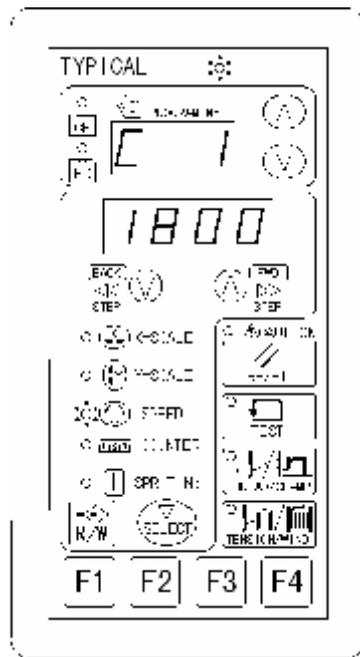

Fig. 5-28
1. Press  or  key, to find out cycle program number (as shown in Fig. 5-28) on PROGRAM No. display area. Ensure pattern confirmation and start sewing.